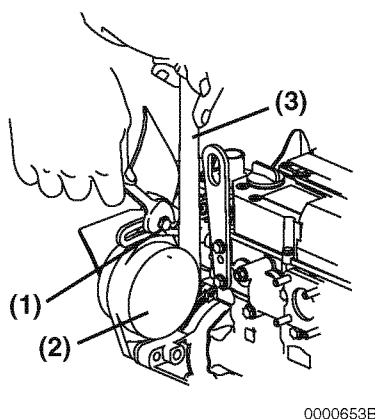

Figure 5-5
- If necessary, adjust the V-belt tension. Loosen the adjusting bolt (**Figure 5-5, (1)**) and move the alternator (**Figure 5-5, (2)**) with a pry bar (**Figure 5-5, (3)**) to tighten the V-belt to the desired tension. Then tighten the adjusting bolt.